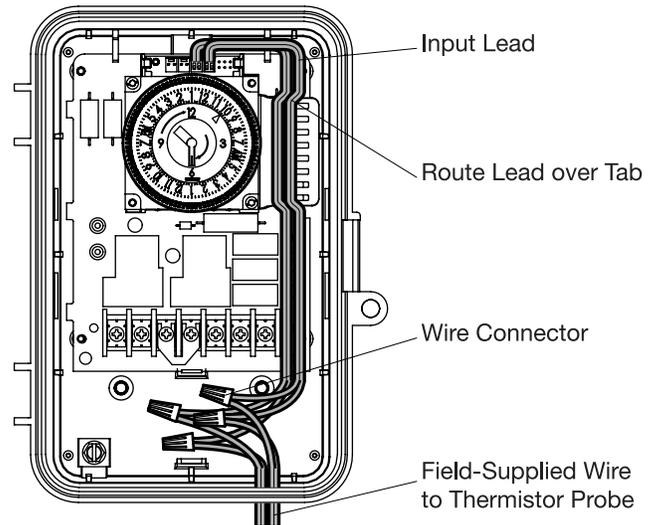

FIG. 4. Route Input Lead (Shown with 2 Probes Routed)
2. Route the input lead above and around the ICUBE™ module as shown in FIG. 4.